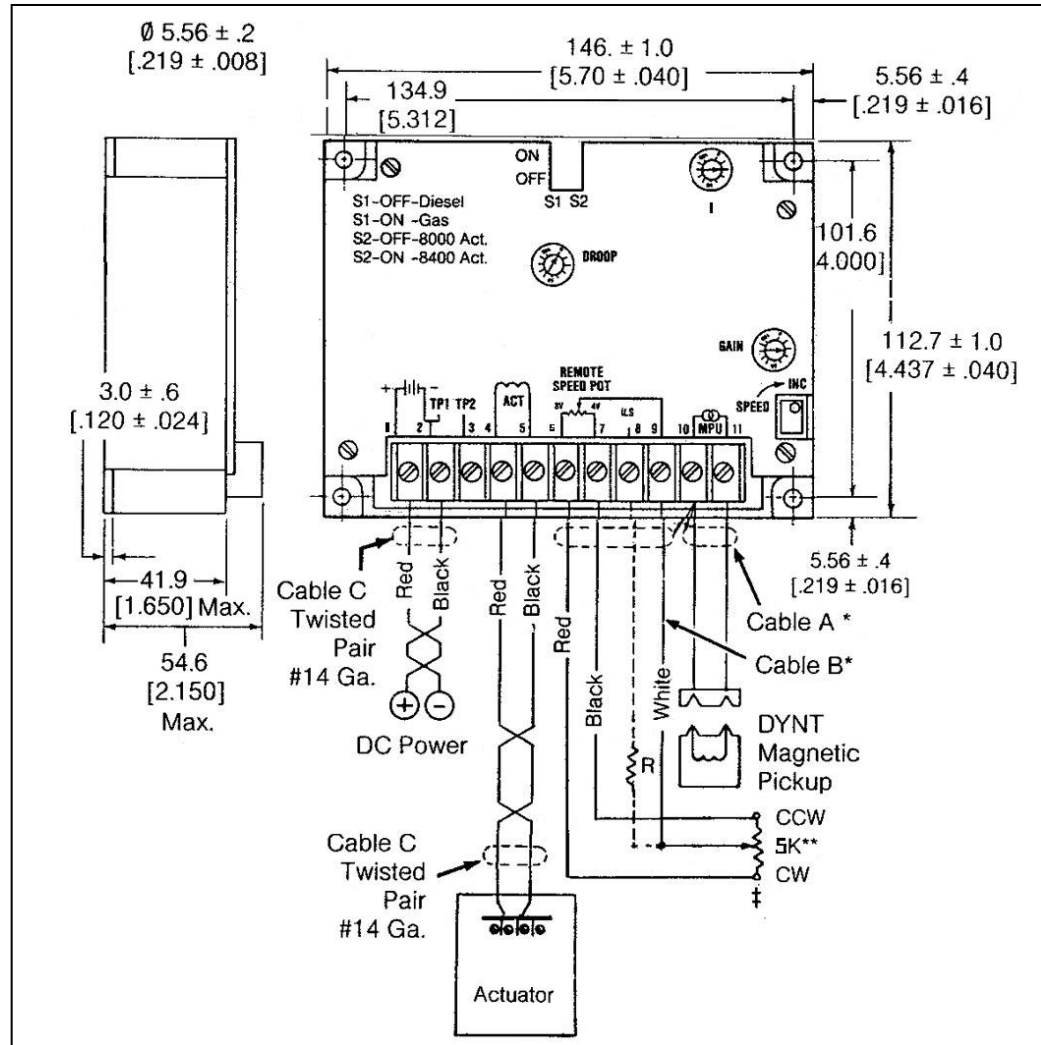
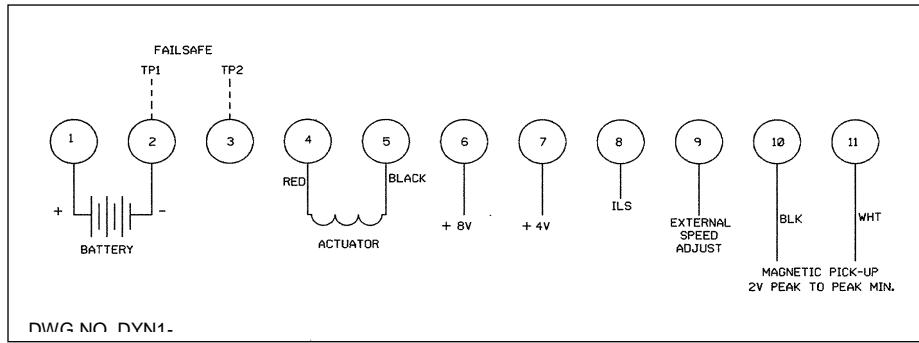

Figure 6. Dimensions & Wiring Diagram for 8270-1072 Controller
Figure 7. Wiring Diagram for CE Controllers
8. Connect the wiring as shown in **Figure 6** or according to your particular wiring diagram.
1. Refer to **Figure 6** or **Figure 7** before making any adjustments of the potentiometers, DROOP, I, GAIN and SPEED.